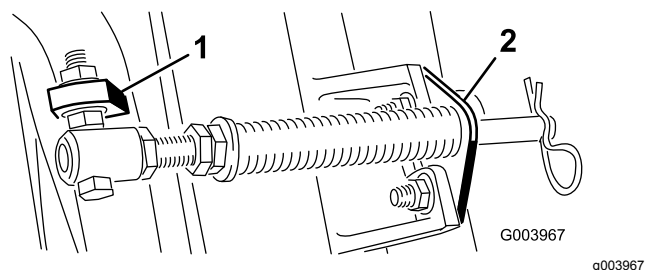
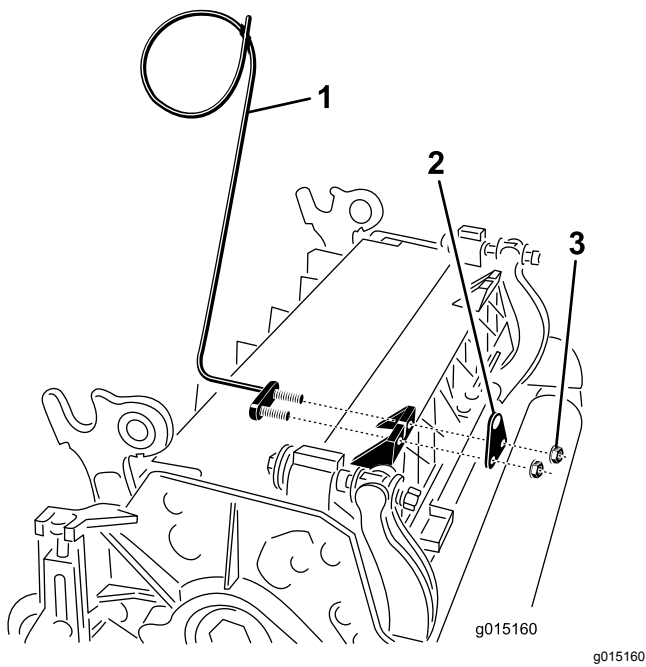

Figure 11
Figure 13
Note: Position the bolt head to the outer side of the tab as shown in Figure 11.
- E. Mount the rod bracket to the cutting unit tabs with the carriage bolts and nuts (Figure 11). On the cutting unit, mount the left hose guide to the front of the cutting unit tabs when installing the rod bracket (Figure 13).